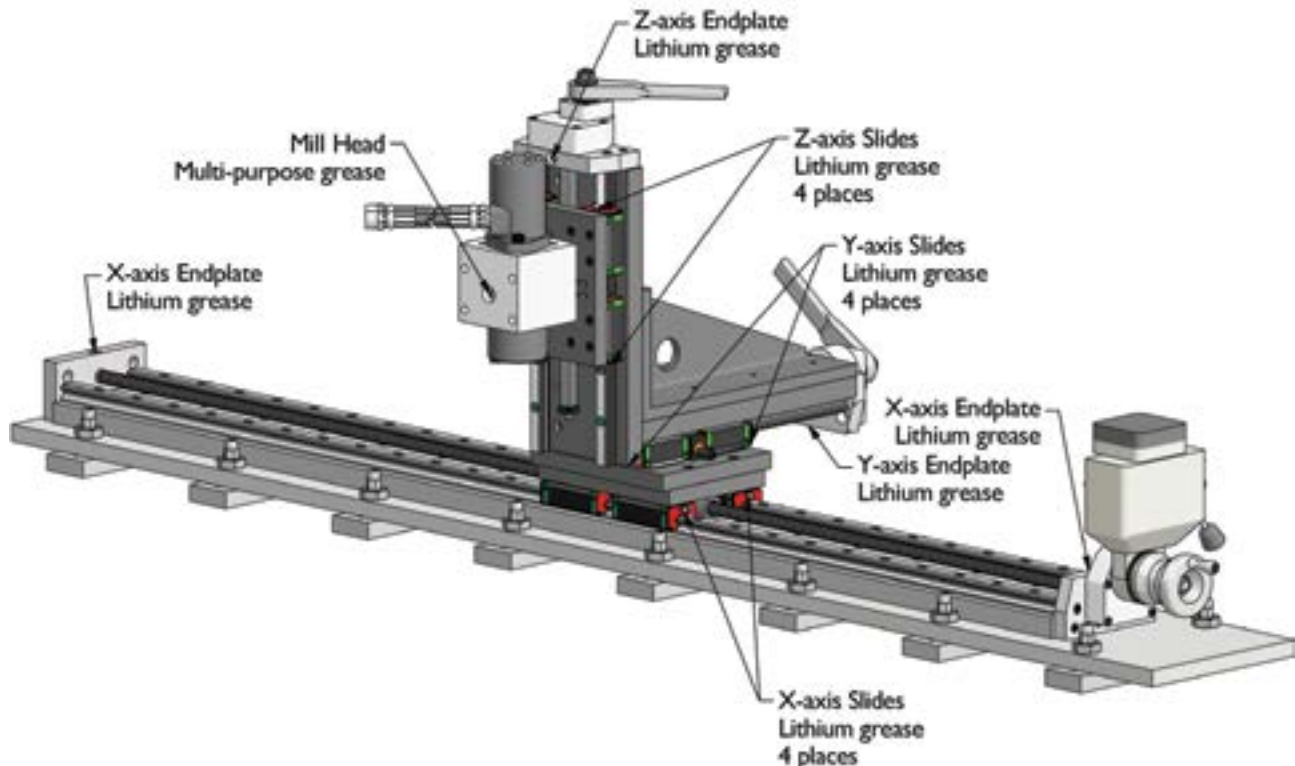

Figure 14 - Lubrication
2. Reassemble the mill. Lubricate all grease zerks as shown in Figure 14.